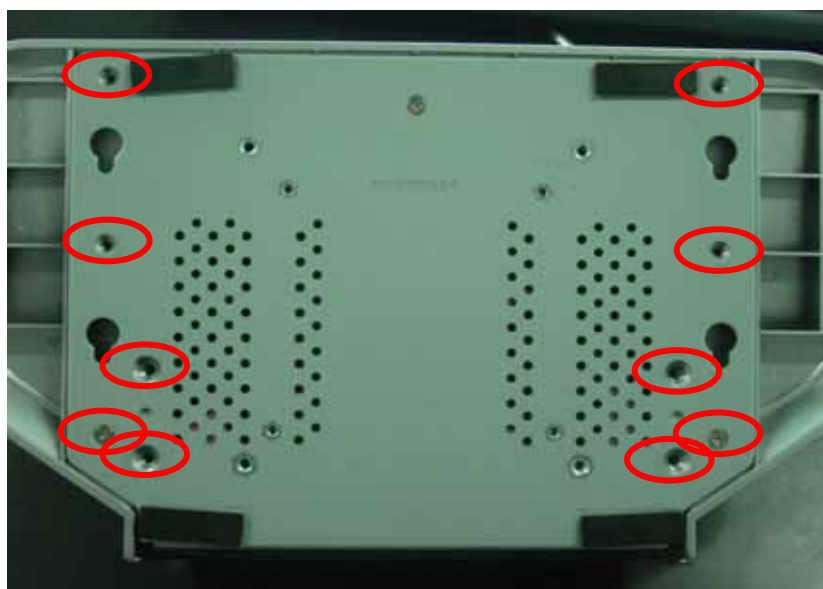

Fig 6
6. Remove eleven screws to release top cover and bottom cover. (Fig 6)